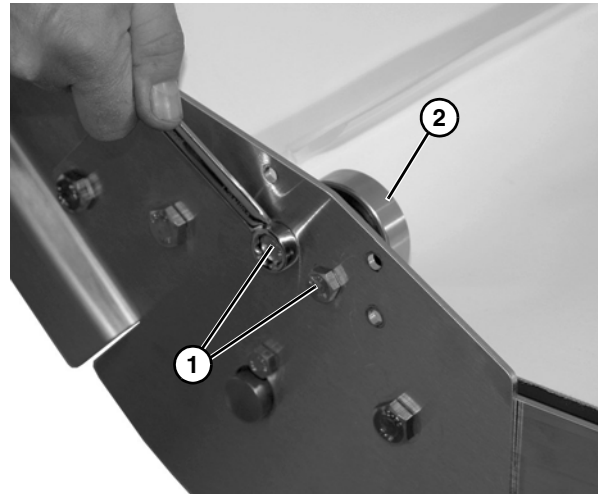

Figure 54
2. Remove two cap screws (Figure 54, item 1) for bearing assembly (Figure 54, item 2) on side of lower knuckle assembly.